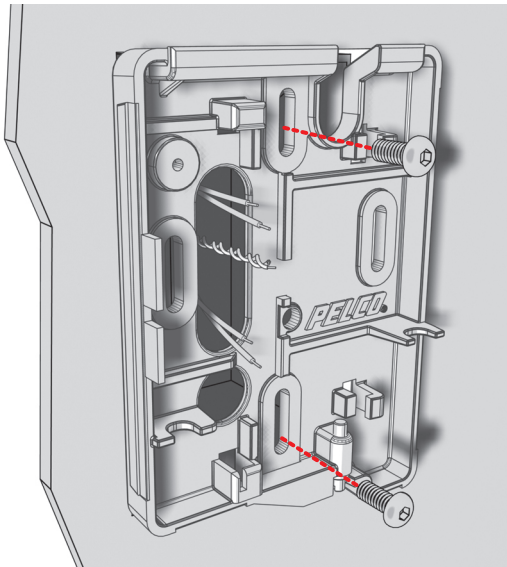

Figure 1. Mounting the Adapter Plate
NOTE: The hardware to mount the adapter plate to the junction box (See Figure 1 below) is not included.
2. Thread the power, video (coax or UTP), and control wiring through the large access hole in the adapter plate. Then attach the adapter plate to the mounting surface using either the top/bottom or left/right pair of mounting holes. (The top/bottom pair is shown in Figure 1.)